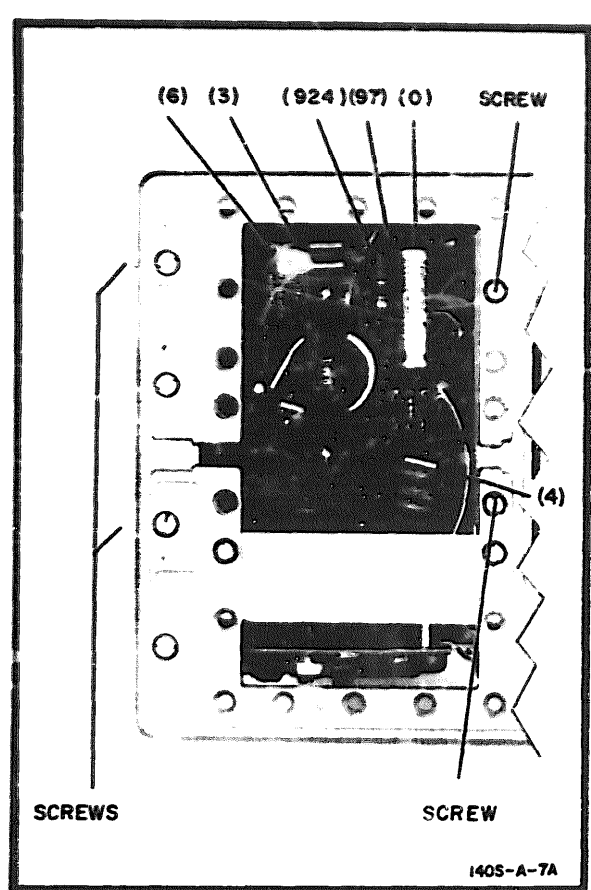

Figure 1-21. High Voltage Deck Removal
- (1) Remove the top and bottom covers of the Model 141A.
- (2) Disconnect the white-gray and white-green-gray wires from the fan terminals.
- (3) Remove all transistor heat sinks from the fan assembly and push them out of the way.
- (4) Remove the four fan mounting nuts on the rear panel of the instrument.
- (5) Lift out the fan assembly.
**c. HV Deck Removal and Replacement.** Most of the components on the high voltage deck can be replaced without removing the assembly. Other components can be removed and replaced by moving the deck part way out (without disconnecting wires). Refer to Fig. 1-21 for mounting screws and wire identification; use the following procedure for removing the high voltage deck.
- (1) Remove the left side and top covers.
(2) Disconnect the 6 wires from the board and remove the 4 mounting screws; see Fig. 1-21 for wire and screw identification.
(3) Disconnect the post-accelerator lead from the CRT and short the CRT pin and lead to the chassis.
(4) Push the wires aside, tilt the deck away from the left side of the instrument and lift it out.